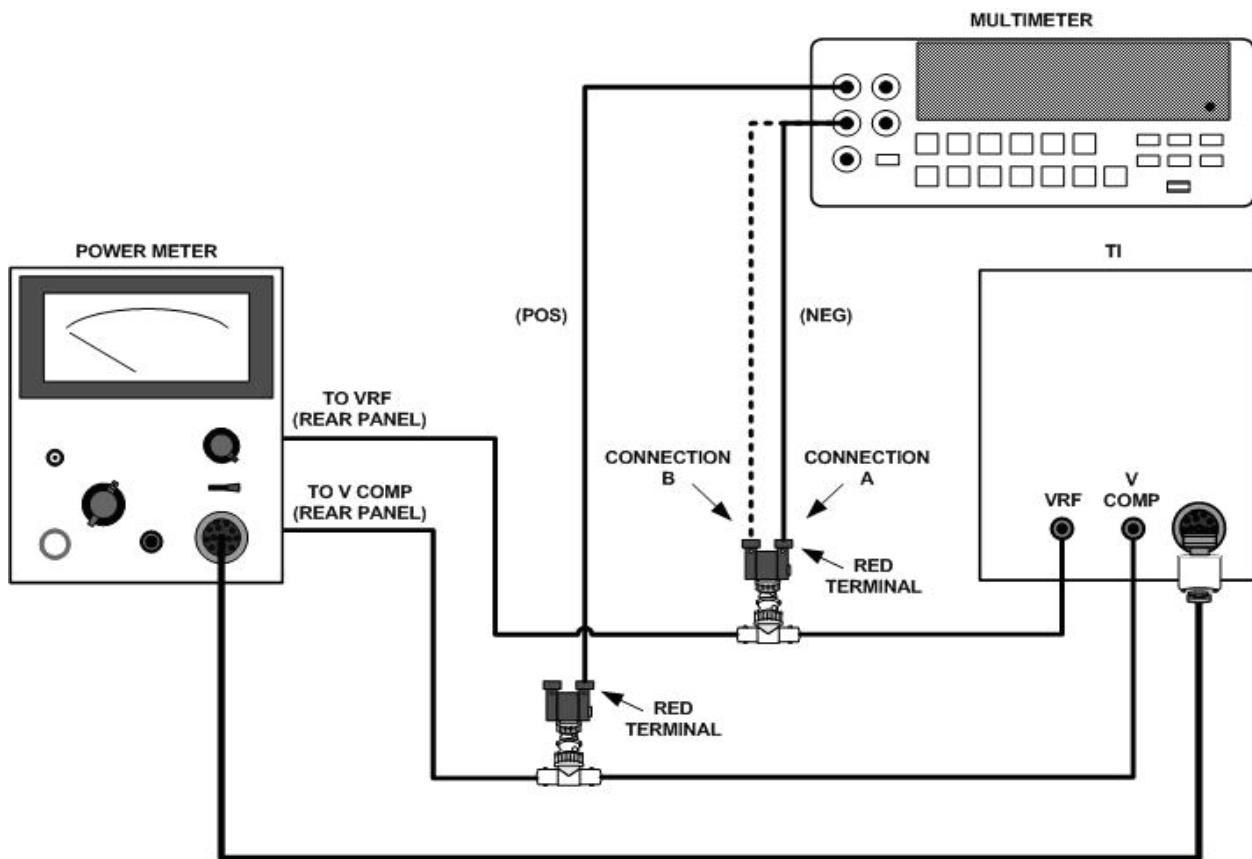

Figure 1. Range accuracy - equipment setup.
- (1) Connect equipment as shown in figure 1, connection A.
- (2) Position power meter controls as listed in (a) through (d) below:
- (1) Connect multimeter as shown in figure 1, connection B.
- (2) Turn TI POWER (mW) switch to .01.
- (3) Turn TI FUNCTION switch to SET.
- (4) Set power meter MOUNT RESISTANCE switch to **200Ω**. The multimeter will indicate between 5.890 and 5.910 V dc.
- (5) Turn TI FUNCTION switch to CHECK. The multimeter will indicate between 2.190 and 2.210 V dc.
- (6) Turn TI FUNCTION switch to **200Ω**. The multimeter will indicate between 5.897 and 5.903 V dc.
- (7) Turn TI POWER (mW) switch to .03, .1, .3, 1, 2, and 3. In each position the multimeter will indicate between 5.897 and 5.903 V dc.
(8) Turn TI **POWER (mW)** switch to **10**. The multimeter will indicate between 3.097 and 3.103 V dc.
(9) Turn TI **POWER (mW)** switch to **.01**.
(10) Set the power meter **MOUNT RESISTANCE** switch to **100Ω**.
(11) Turn TI **FUNCTION** switch to **100Ω**. The multimeter will indicate between 2.197 and 2.203 V dc.